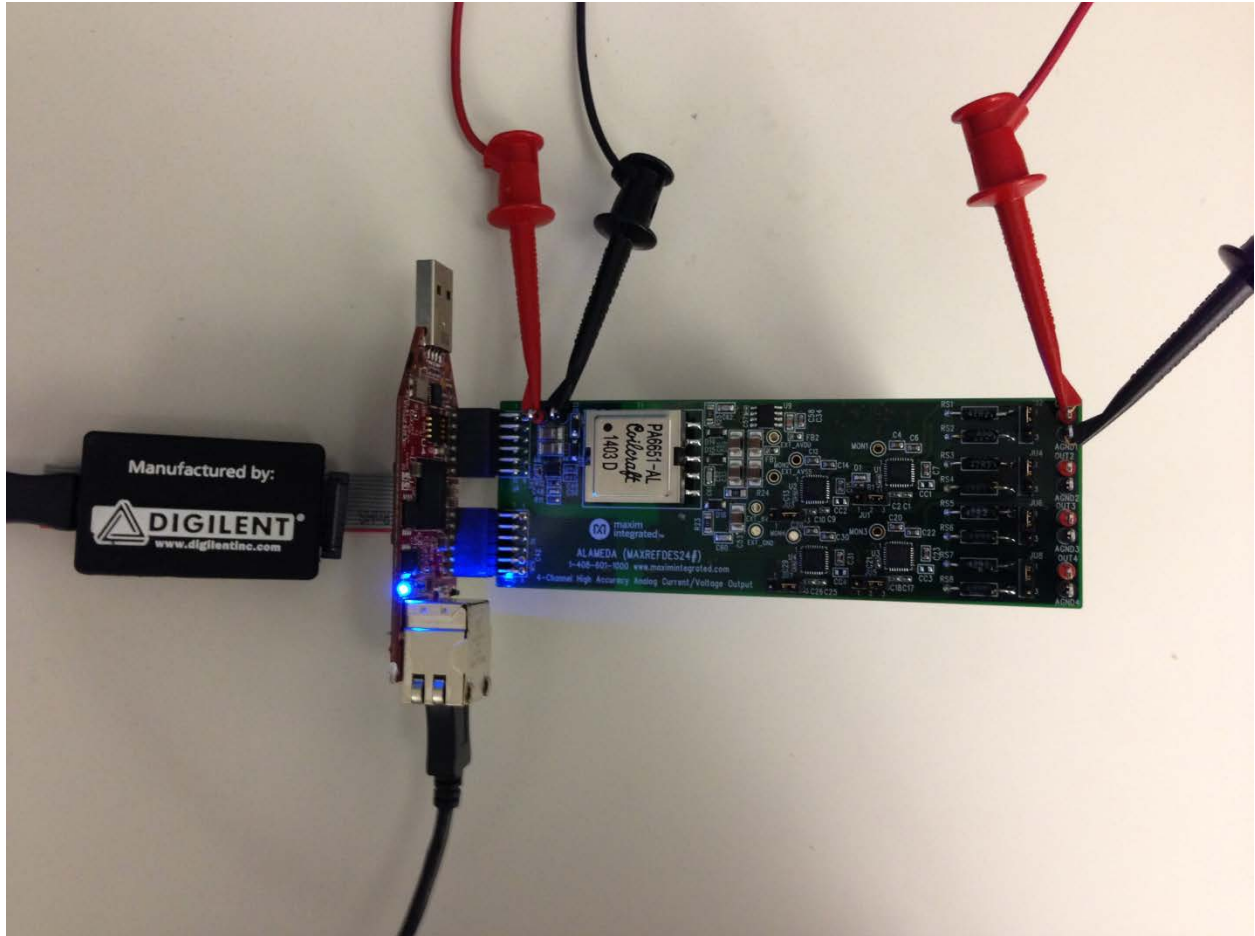

Figure 1. Alameda Board Connected to LX9 Kit
- 1) Connect the Alameda board to the J4 and J5 ports of an LX9 MicroBoard as shown in Figure 1. Ensure the connector is aligned as shown in Figure 2. The communication between the Alameda board and the LX9 MicroBoard is through the pins on the J4 connector. The J5 connector is for the board physical support only.
1. Connect the Alameda board to the J4 and J5 ports of an LX9 MicroBoard as shown in Figure 1.